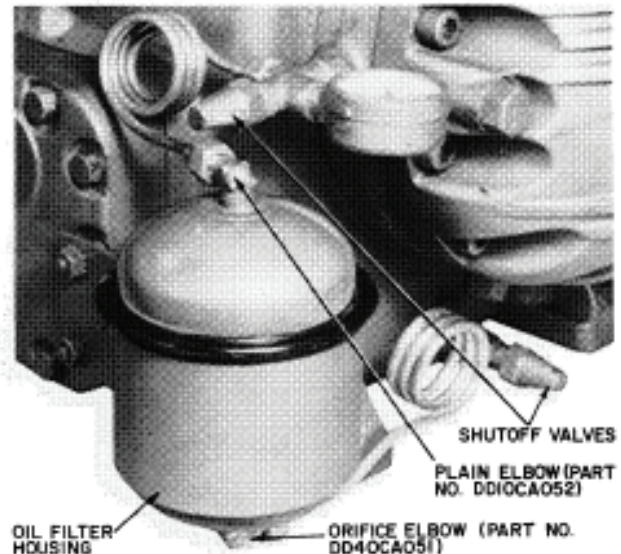

Fig. 1 — Oil Filter Accessory Package (5H40-5H86)
Always check compressor oil level before starting unit. If oil is required, record date and amount added. See Fig. 1 for location of oil filter plug. Refer to Application guide 574-509 for specific oil types and quantities of oil.
A bleed-type, high-pressure, disposable filter is available as an accessory for 5H40-86 compressors (see Fig. 1). Replace oil filter after the first 50 hours of operation, or whenever the oil is changed or becomes dirty.
1. Close oil-line shutoff valves on each side of filter (see Fig. 1).